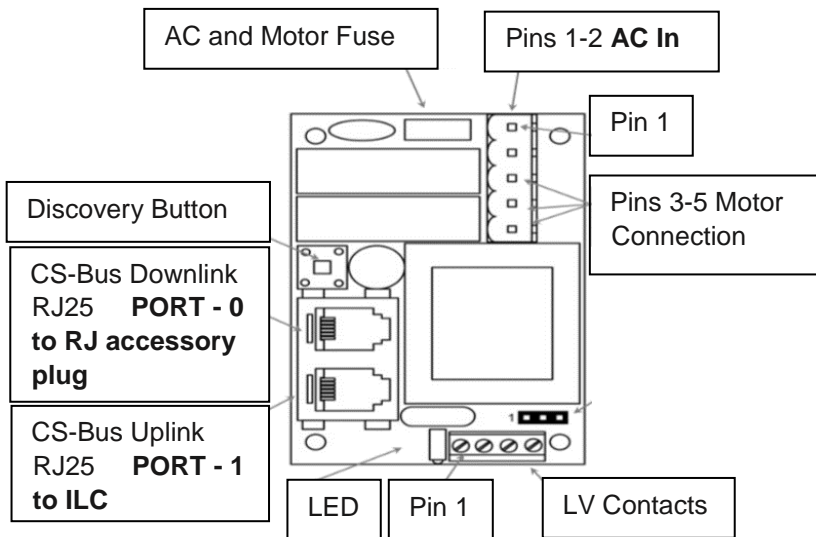

Figure 31: IMC control board schematic
The IMC has the capability of being operated through a wall switch, infrared remote, radio frequency remote, internet protocol (IP) control system, and a screen trigger through a projector. The IMC is the most robust controller offered for Cabaret. For a detailed look at what the IMC has on board, please see below (see Figure 31).